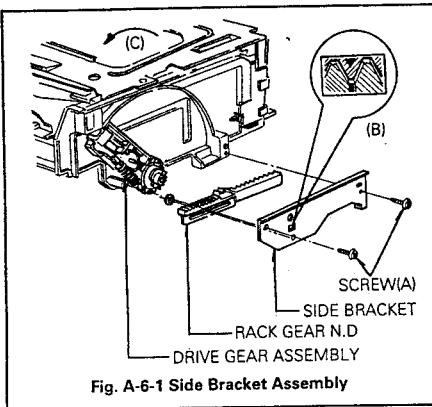

Fig. A-6-1 Side Bracket Assembly
6. Side Bracket Assembly(Fig. A-6-1)